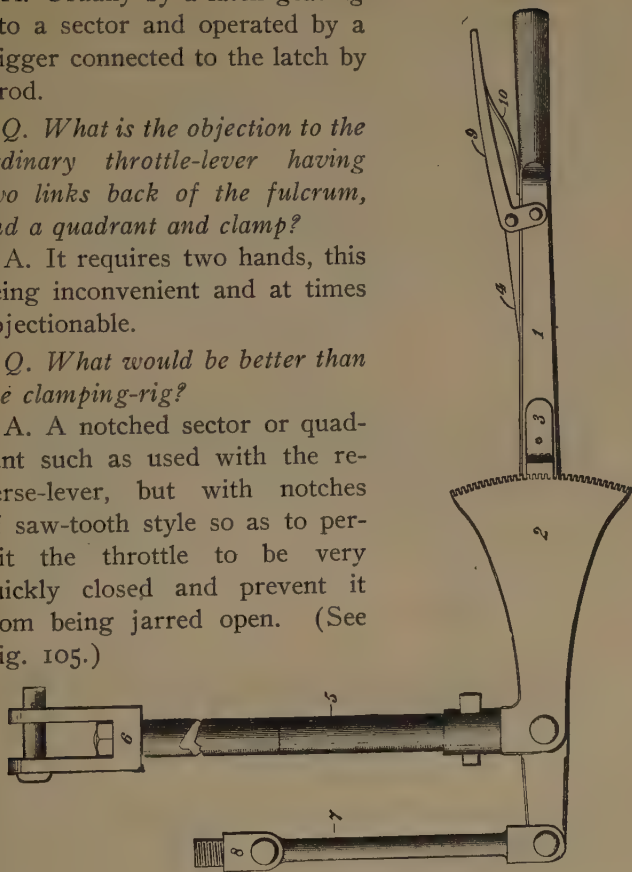

Fig. 105. Throttle Work.
A. By the throttle-lever, which is connected by the throttle-stem with the lower arm of a bell-crank, the upper arm of which is connected by a rod with the valve-stem. The throttle-stem works through a stuffing-box in the back end of the boiler; being enabled to work in a straight line through the stuffing-box by a small vibrating link. (See Fig. 105.)
A. A notched sector or quadrant such as used with the reverse-lever, but with notches of saw-tooth style so as to permit the throttle to be very quickly closed and prevent it from being jarred open. (See Fig. 105.)